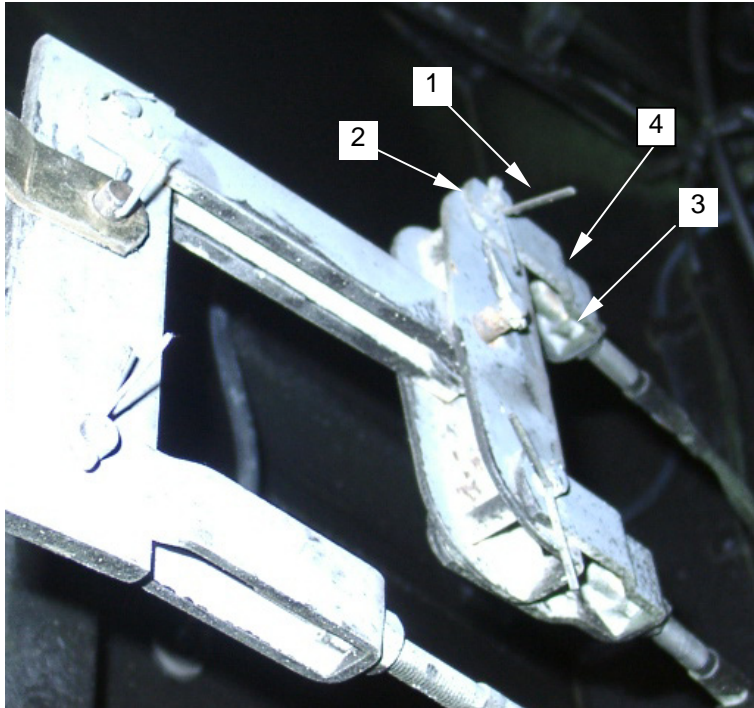

Figure 10. Parking Brake Cable
1. Remove cotter pin (**figure 10, item 1**) and retaining pin (**figure 10, item 2**).
2. Loosen and remove cable bracket mounting nut (**figure 10, item 3**).
3. Remove cable clamp (**figure 10, item 4**).
10. Install cable bracket (**figure 10, item 4**) on new cable with mounting nut (**figure 10, item 3**).
11. Fasten cable clamp to spreader with retaining pin (**figure 10, item 2**) and cotter pin (**figure 10, item 1**).